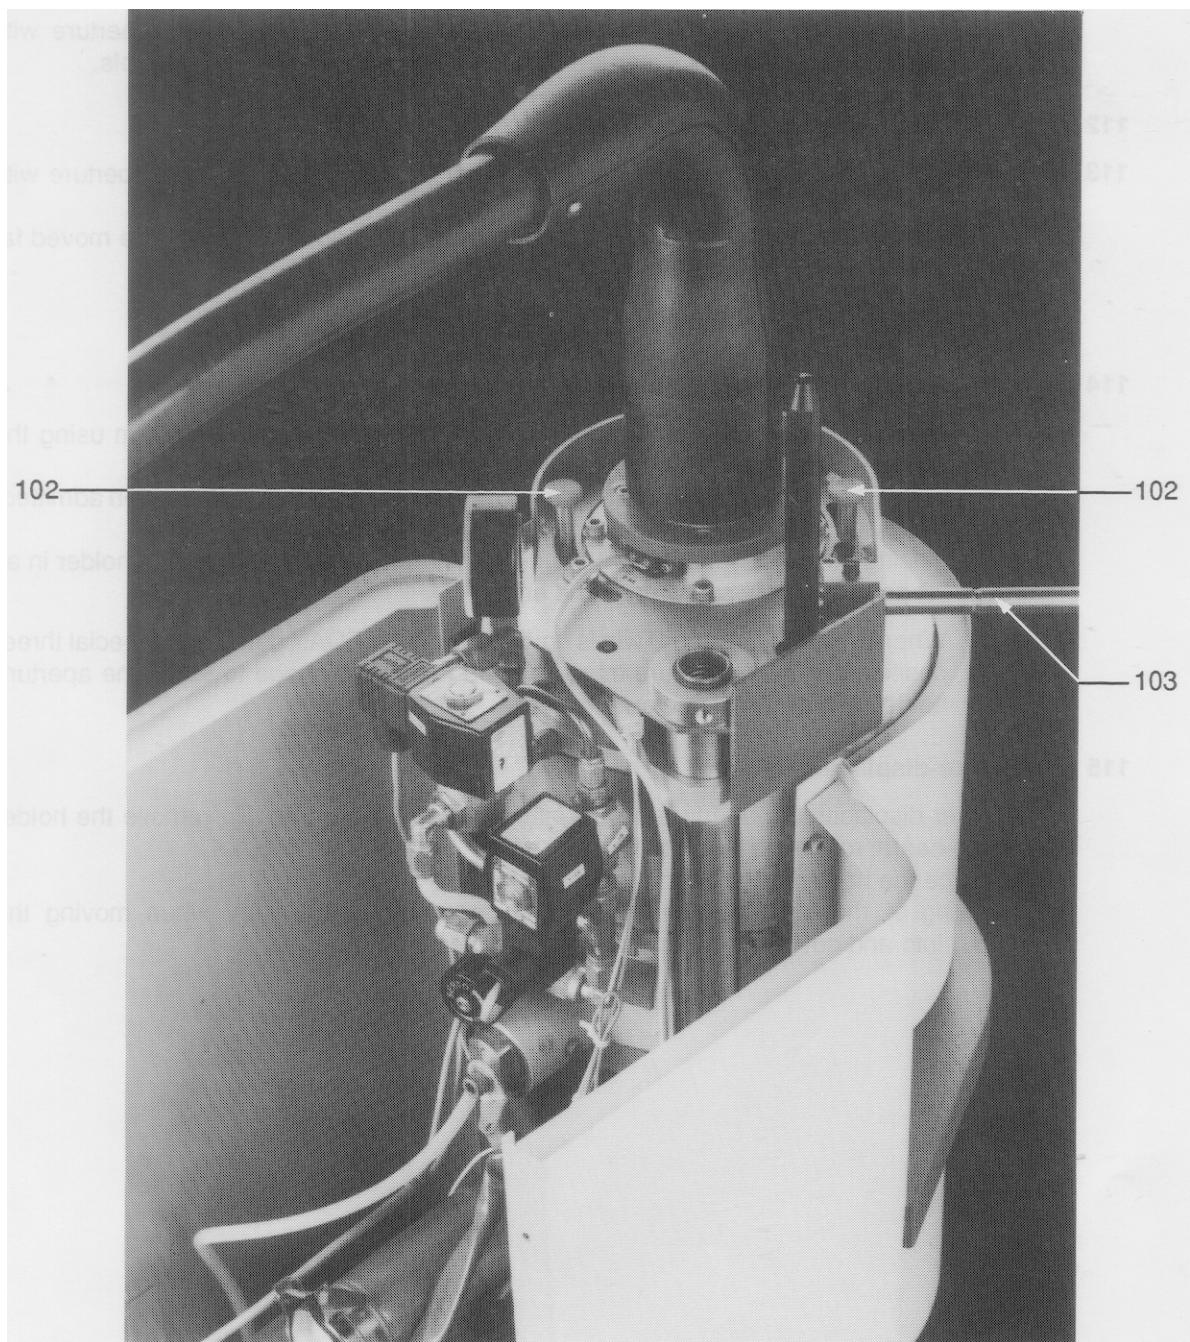

Fig.7-5, Electron gun - mechanical controls
7.2.1 Electron gun and column (Fig. 7.5)